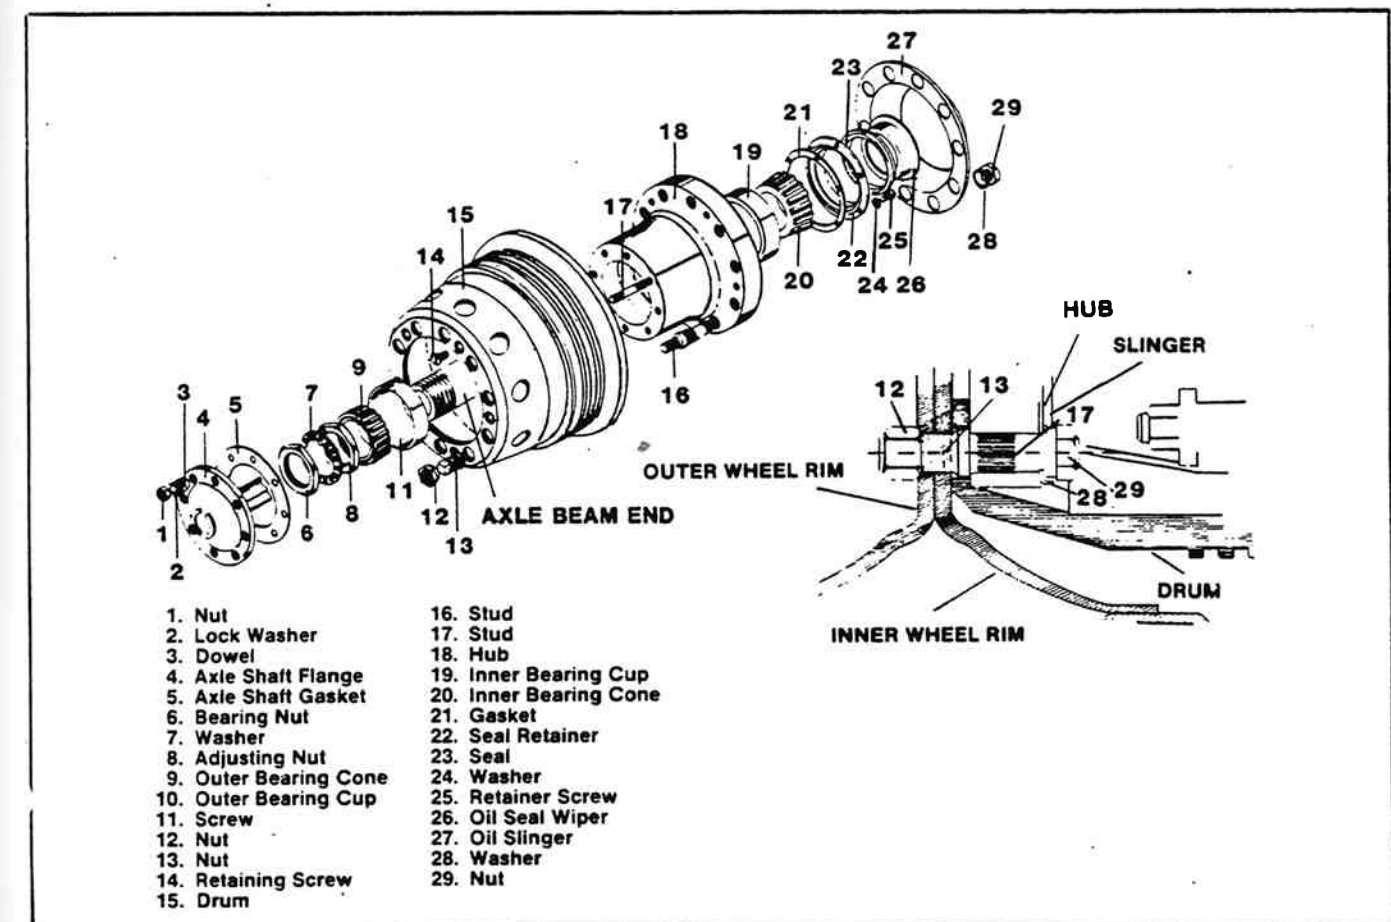

Figure 15-14. Drive Axle Hub and Drum.
3. Remove the axle shaft drive stud nuts and lock washers. See figure 15-14.